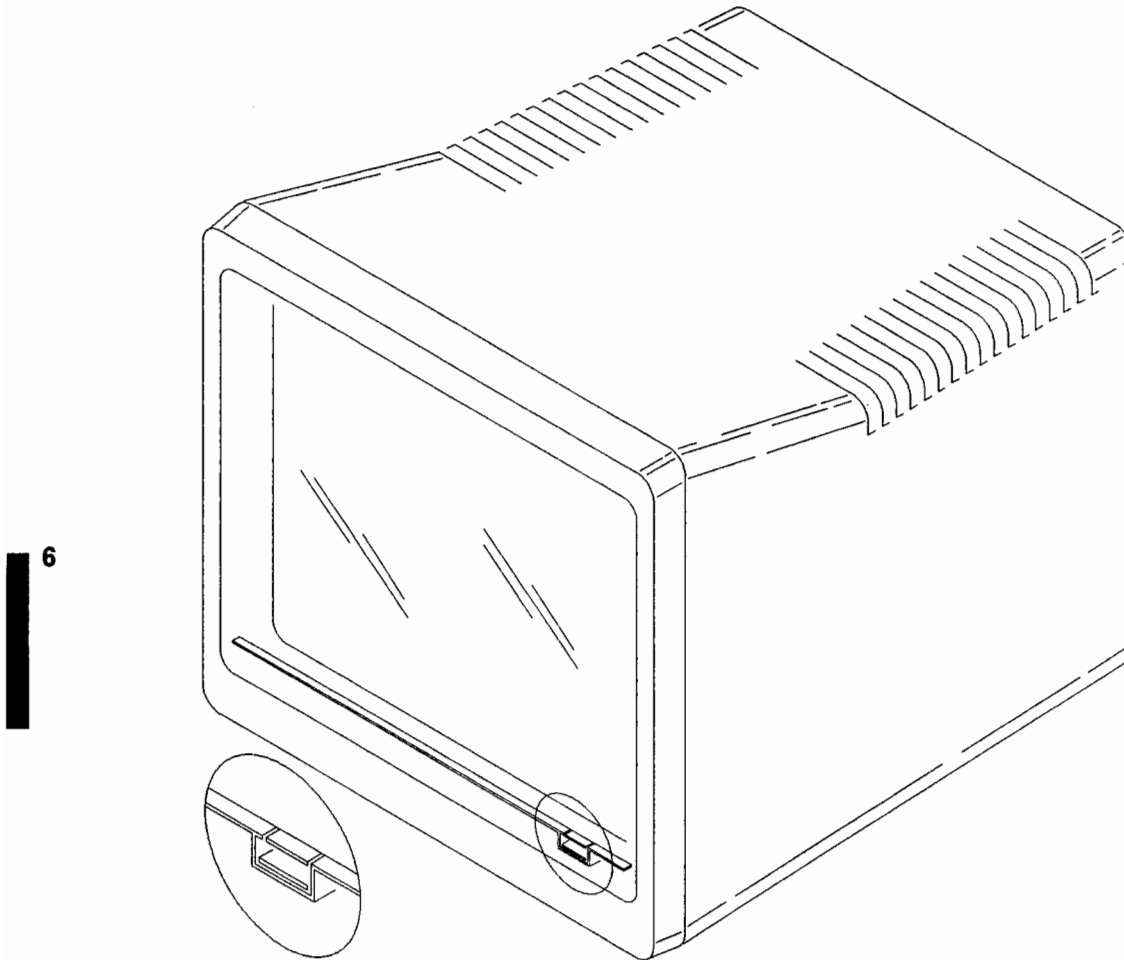

Figure 6-2.
3. Locate the connector socket on your monitor (on the right at the bottom of the display tube). If there is a plug in the socket, remove it (Figure 6-2).